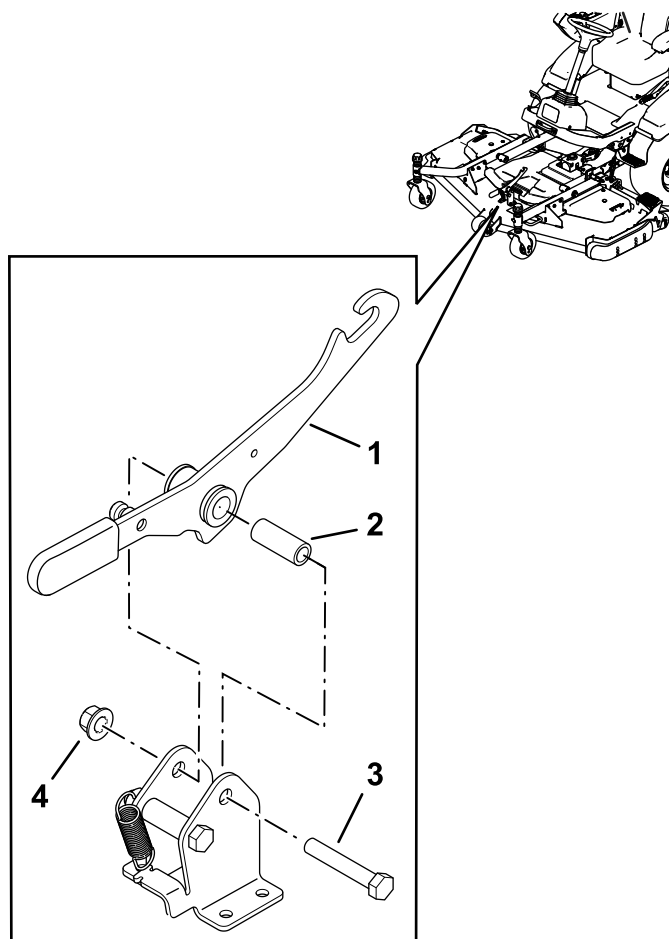

Figure 2
1. Order the new latch arm, Part No. 147-0066; refer to Figure 2.
5. Install the new latch arm; refer to Figure 2.